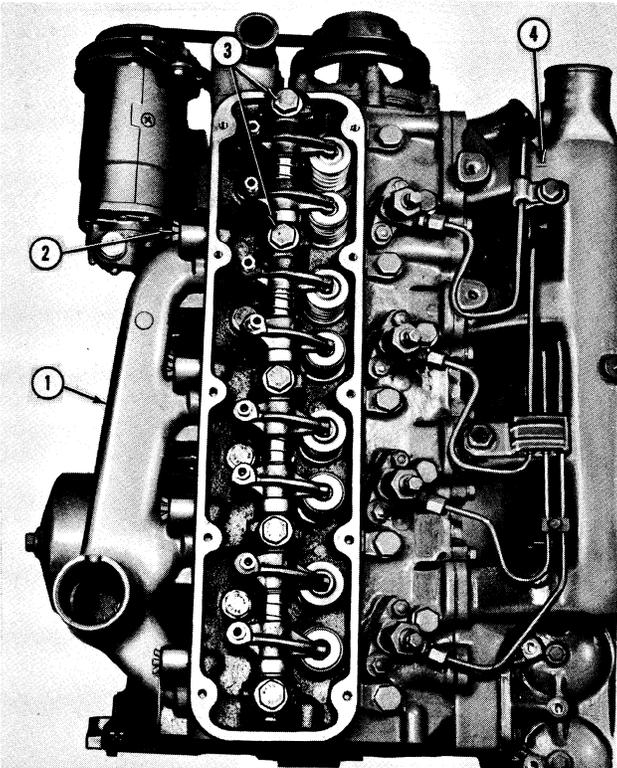

Figure 2
3. Bend the lock tabs back, Figure 2, and remove the bolts that secure the exhaust manifold to the cylinder head.
4. Remove the exhaust manifold and metal gasket, Figure 2.
9. Remove the bolts and lock washers that retain the intake manifold, Figure 2, to the cylinder head and remove the manifold and gasket.
12. Visually check the push rods for straightness before they are removed by rotating them with the valve closed. Loosen the bolts that retain the rocker shaft to the cylinder head, Figure 2, evenly and alternately until all tension has been relieved, and lift the rocker shaft assembly from the cylinder head.